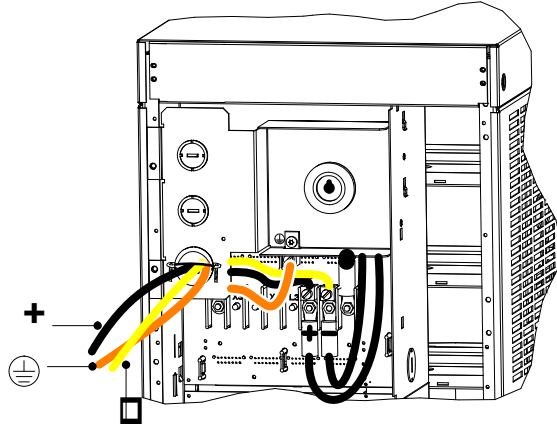

Figure 46. Battery Cable Installed in Battery Cabinet
16. If the battery cable will be installed in flexible or other conduit, pull the conductors through the conduit. Attach the conduit to both the UPS power entrance panel and the battery cabinet entrance panel as shown in Figure 46.
17. Secure the +, the □ and the ⊖ conductors to the proper compression lugs on the battery cabinet backplane as shown in Figure 46. Torque all three compression lugs to 8.5–9.6 Nm (75–85 lb in).